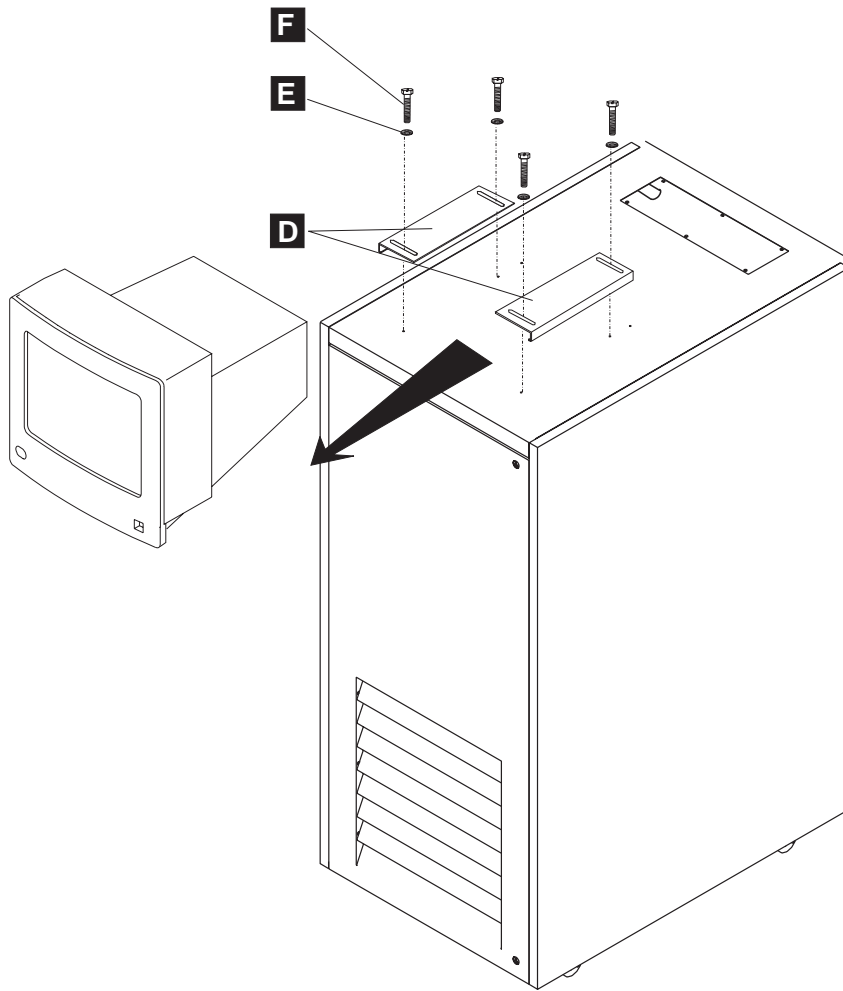

Figure 6-5. Display Removing from the Top of 29 U Rack
4. Loose and remove the screws **F** which maintain the safety retainers **D** (see Figure 6-5 on page 6-4).